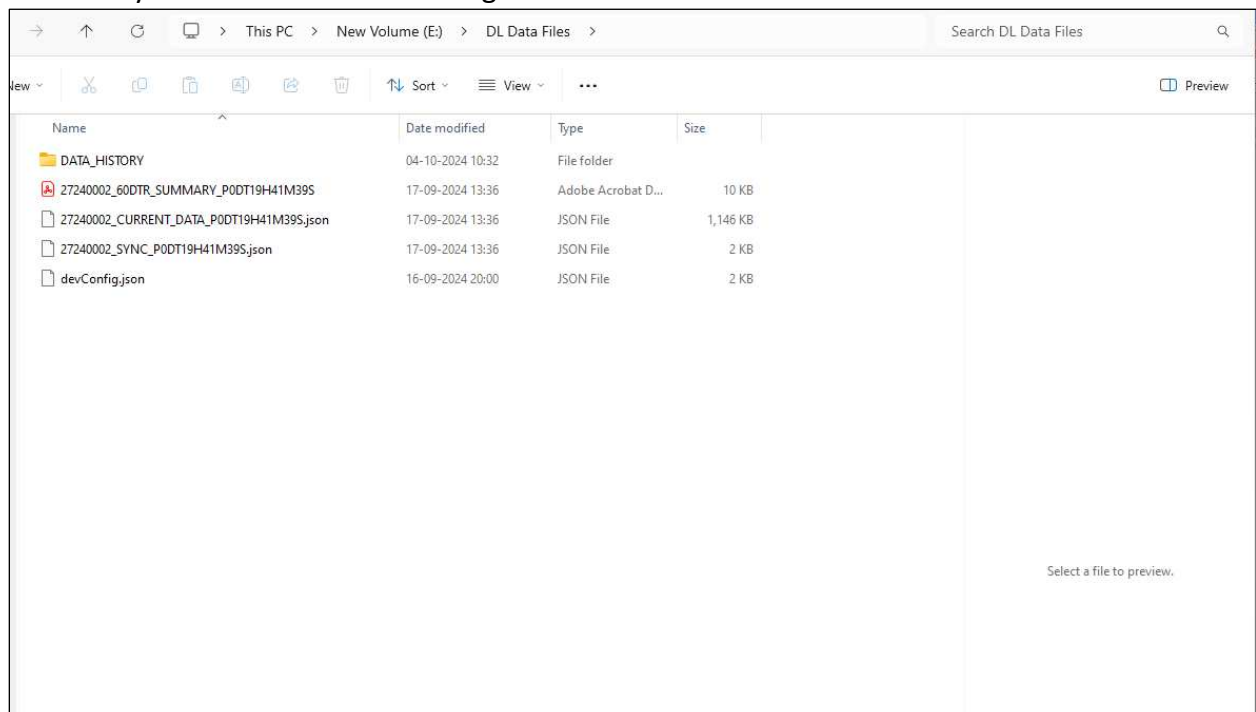

Figure 30 Downloaded Data from Equiplog Data logger
- On downloading, the root directory will consist of the mentioned Json files, PDF report and History data folder as shown in figure 30.